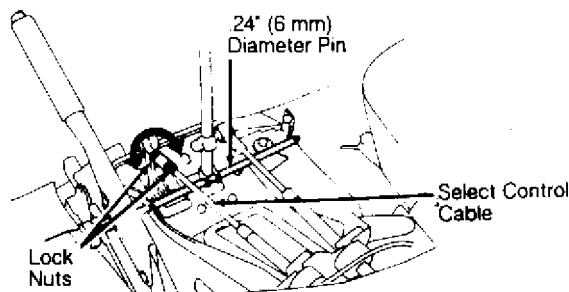

Fig. 3: Adjusting Van Shift Lever Neutral Position
2) To adjust shift lever Neutral position, loosen adjusting lock nuts on select control cable. See Fig. 3. Adjust length of select control cable so that guide pin inserts smoothly into all holes.